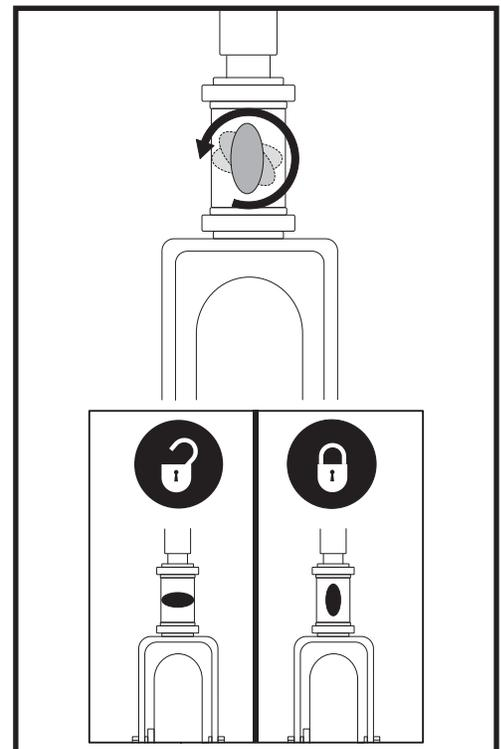

Figure 28. Tiller Lock Knob (Model 104 only)
1. Remove the key from the key switch. *For model 104*, lock the tiller in the straight ahead position by pushing the tiller lock knob in and turning it clockwise 90°. See figure 28. The front wheel must face forward in order to lock the tiller.